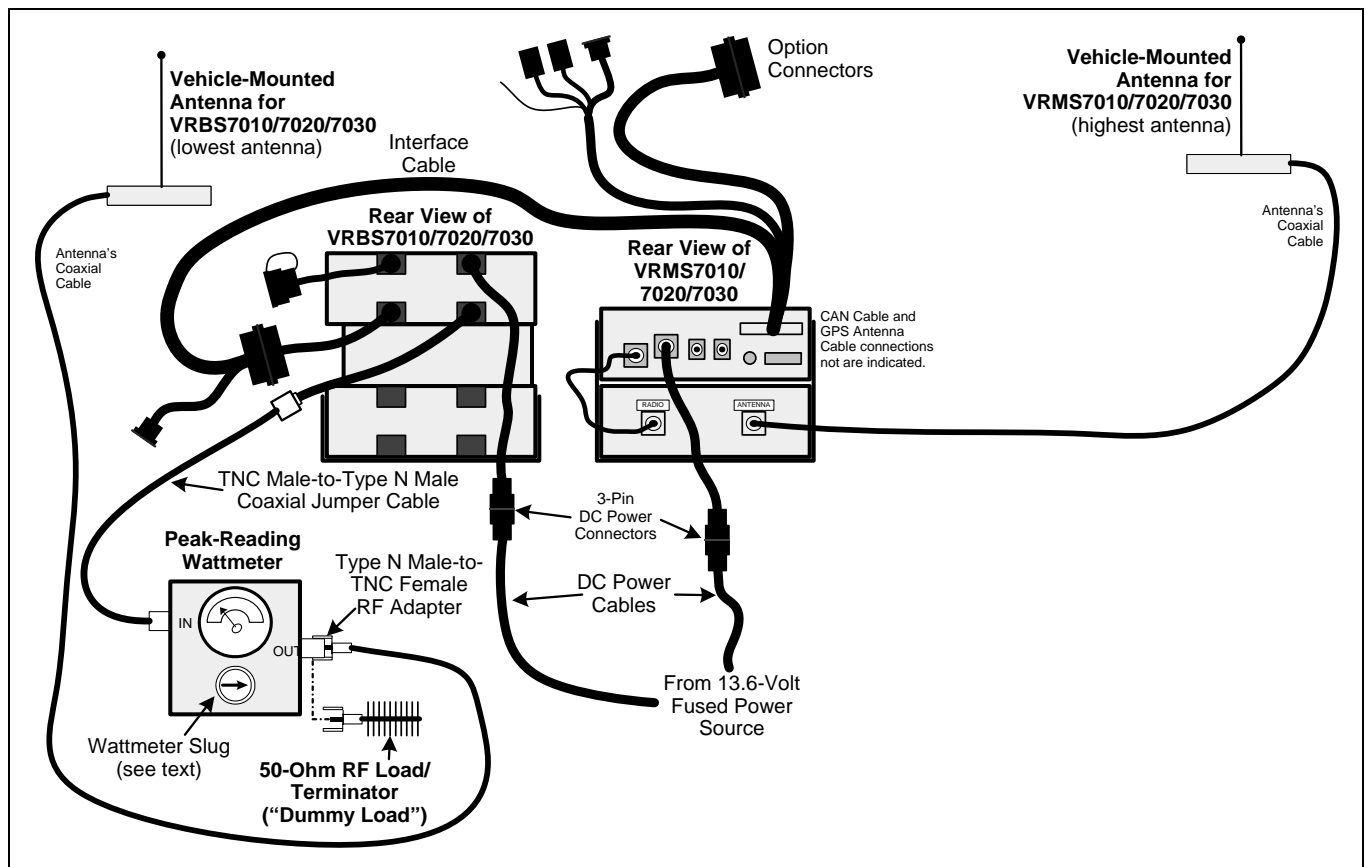

Figure 16-2: Wattmeter Connections for VRBS7010/VRBS7020/VRBS7030 Antenna Tests
2. Using the Type N male to TNC male coaxial jumper cable, connect the antenna connector at the rear of the VRBS to the wattmeter's input connector. See Figure 16-2.
3. Connect the cable from the vehicle-mounted VRBS antenna (cable labeled "VRBS Antenna") to the wattmeter's output connector. See Figure 16-2.